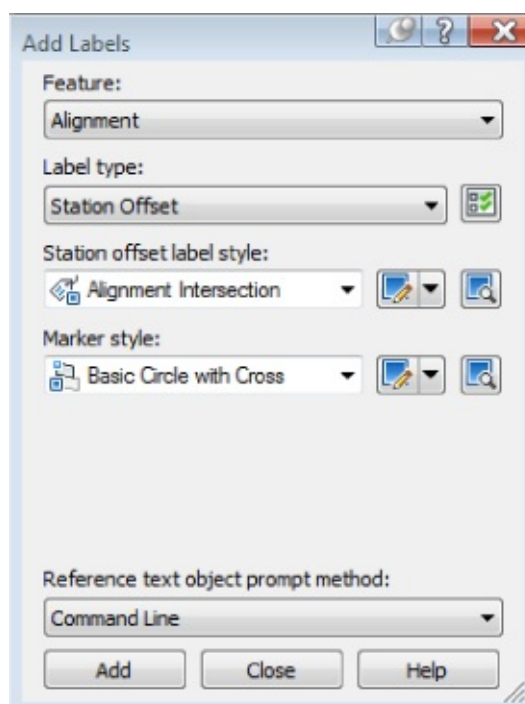

Figure 18.38 Adding the new alignment label
32. Change the label settings to match those shown in Figure 18.38, and click Add.